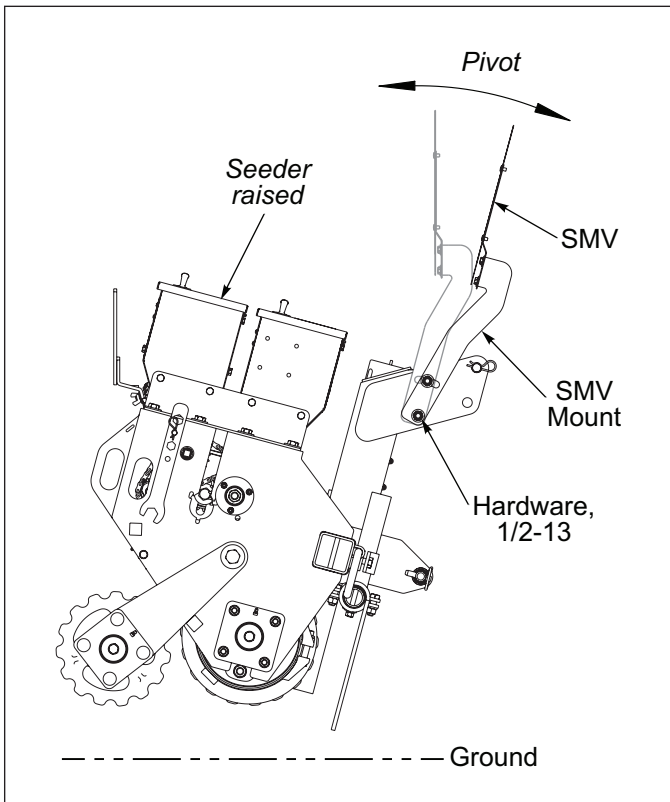

Figure 3-4: SMV Position In Transport
1. Loosen the 1/2-13 Hardware attaching the SMV Mount to the Seeder. **See Figure 3-4.**